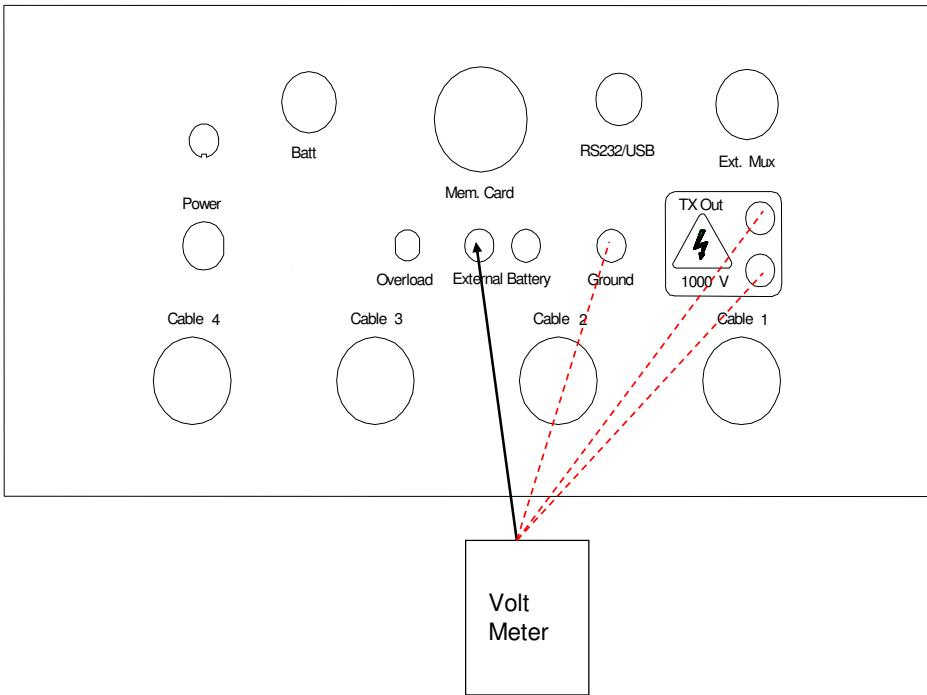

Figure A.2. Isolation test with volt meter between the negative External Battery connection and the a) Ground, and b) Tx Out connections.
4. Return the volt-ohm meter to the voltage measuring mode. Connect the ground lead of the probe to the negative (black) external battery connection. Use the probe to check for voltage between the negative (black) external battery connection and a) the ground (green) connection, and b) each of the two TX Out connections (see Figure A.2). Voltages should be less than the open circuit voltages for the volt-ohm meter, generally less than one volt.